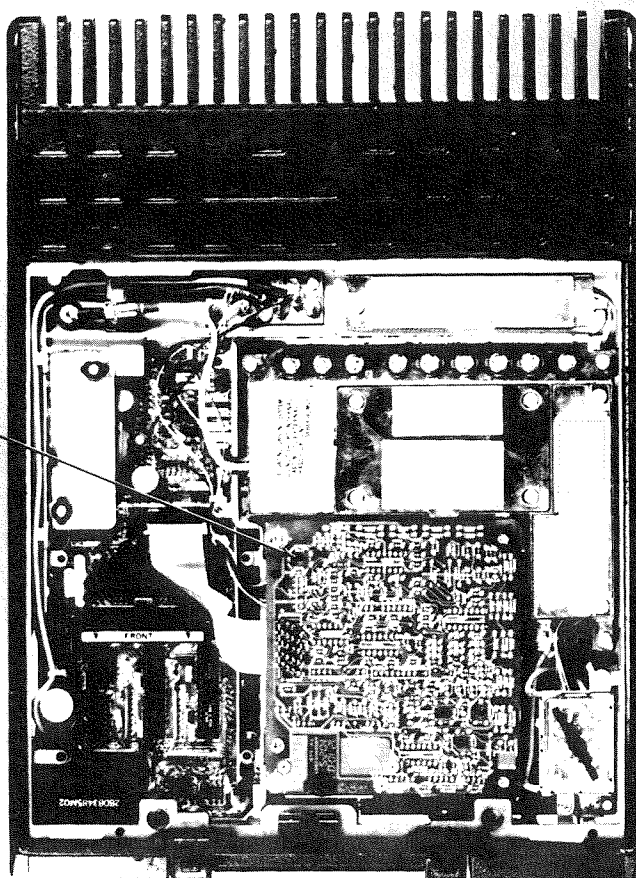

Figure 2. Radio Adjustment Locations (Bottom View)
2.1.3 The transmitter power amplifier current limit can be adjusted after the bottom cover has been removed and the holes on the common circuits board exposed. (See Figure 2.)
(1) Terminate the radio with a wattmeter and a 50-ohm load.
(2) Adjust the dc power supply voltage to 16.1 volts for 100W and 78W models; 16.3 volts for 30W models.
(3) Rotate potentiometers R908 and R917 fully clockwise (see Figure 2). For 30W radios, preset R908 fully counterclockwise and R917 clockwise.
(4) Select the channel closest to the radio's first target frequency listed in Table 2. Key the transmitter and adjust R908 to obtain a nominal power of 110W for 100W radios, 86W for 78W radios, or 33W for 30W radios. For variable power-set, adjust R908 until the power is 10% over the desired power-set level (e.g. 55W for a 50W radios).